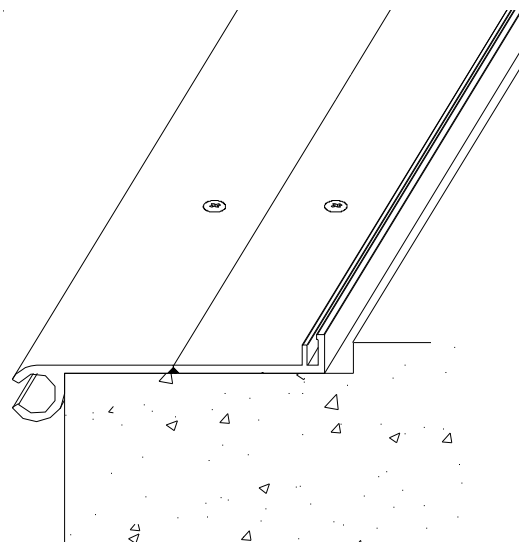

Figure 9
**STEP 11.** Place the base member back into its installed position in the blockout. Align the anchor holes in the base member with the anchor holes in the concrete. Ensure that the base member is level, plumb, and properly aligned. Attach the base member to the concrete slab using the fasteners supplied by the factory (see Figure 9). Repeat this procedure for the opposite base member.